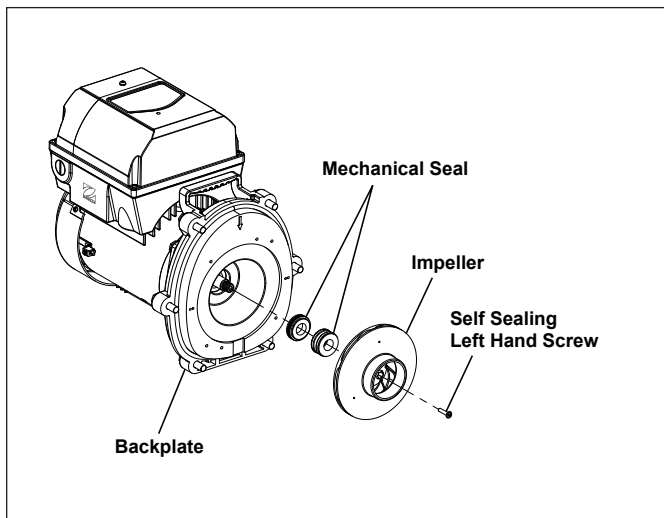

Figure 15. Remove the Impeller
7. Hold the exposed motor shaft with a ¼" hex allen wrench and remove the impeller center screw using a No. 2 Phillips screwdriver. Turn the left-hand-threaded screw clockwise to loosen it. See Figure 15.
2. Remove the carbon face seal half from the motor shaft (See Figure 15). This is a spring-loaded seal. Grasp the portion of the seal closest to the impeller body and pull the seal off, using a twisting motion.